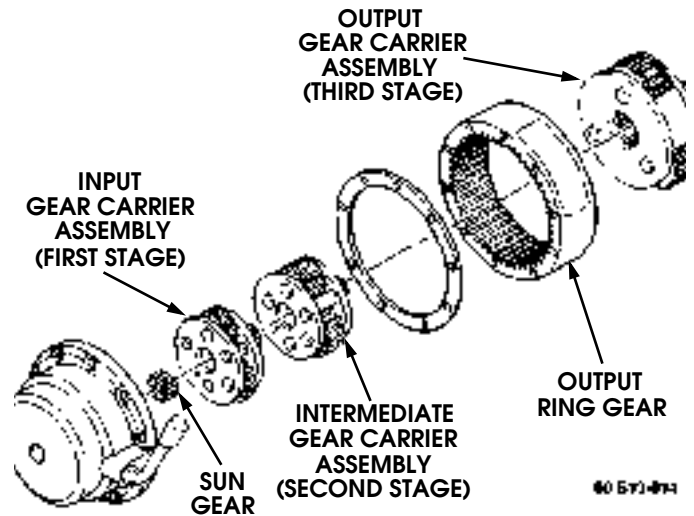

Figure 13-13: Gear Carriers
7. Inspect gear teeth, splines, and machined surfaces of output ring gear, output gear carrier, intermediate gear carrier, and input gear carrier assembly for damage. Replace any damaged parts (Figure 13-13).